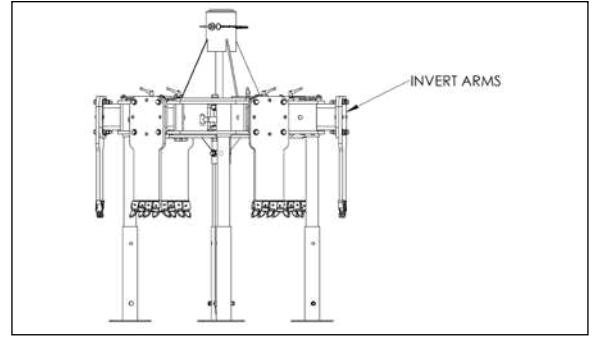

Figure 15. Replacing Cutting Arm
15. The cutting diameter of the standard Cutting Arms is between 44 and 60 inches. Smaller diameter cuts between 22-34 inches require the use of the optional Water Valve Rebuild Package [K-MM0325]. See Figure 15.